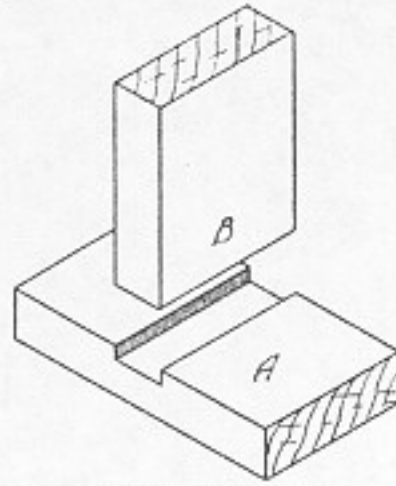

Fig. 181. Dado joint.
8. The pieces are fit together (Fig. 181). If the dado is too narrow, it must not be made wider, but a little is planed off the sides of board B until it fits snugly. If the dado is too wide, the joint is spoiled; it looks bad and will not hold.